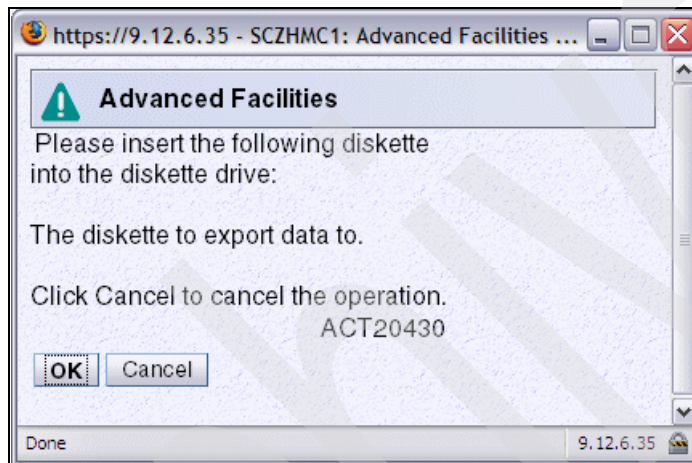

Figure 3-32 HMC - OSA Advanced Facilities (Export insert diskette)
9. You are prompted to insert a diskette into the drive on the HMC workstation that you are logged on to (Figure 3-32). Insert the diskette and click **OK**.